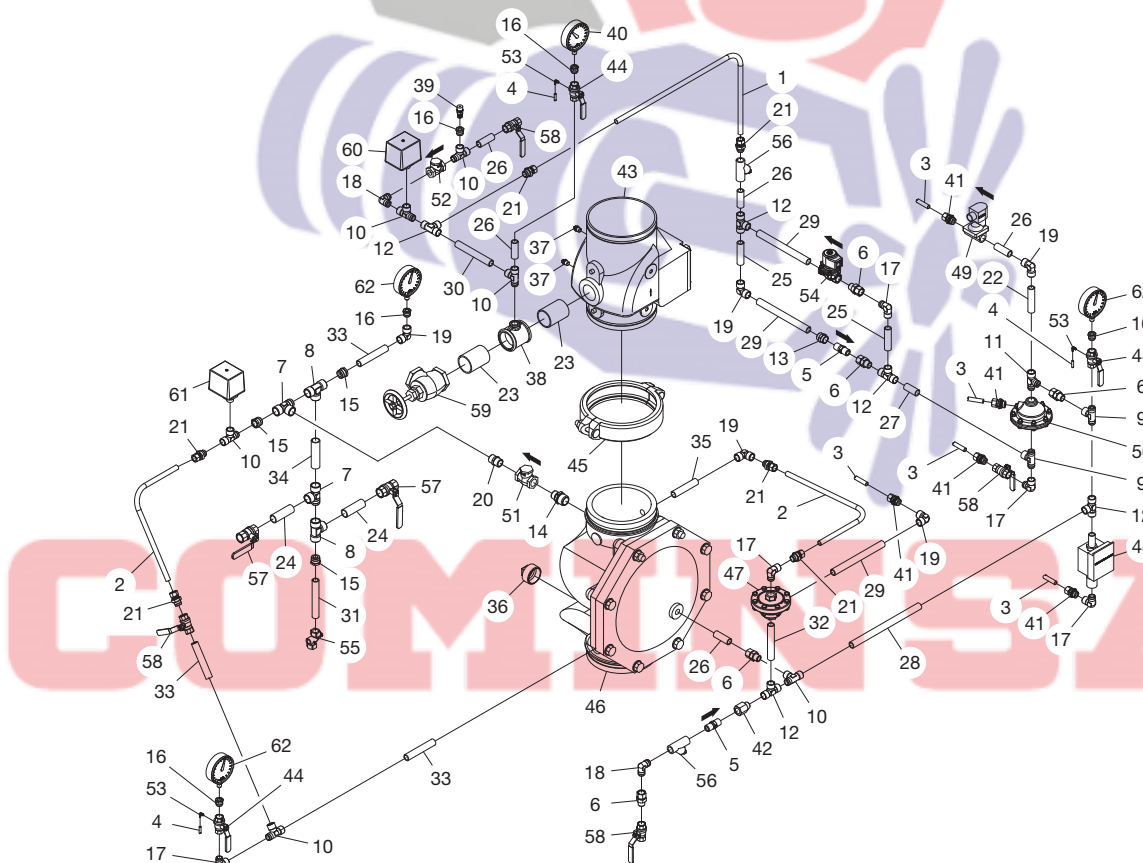

FIGURE 3 (6 OF 6)
- Ensure the fully assembled Preaction Type A Trim is installed in accordance with Figure 3.
Step 1. Connect the Diaphragm Chamber Supply Control Valve to the inlet side of the system's Main Control/ Shut-off Valve in order to facilitate setting of the Preaction Type A Trim (Ref. Figures 3, 5 and 6).